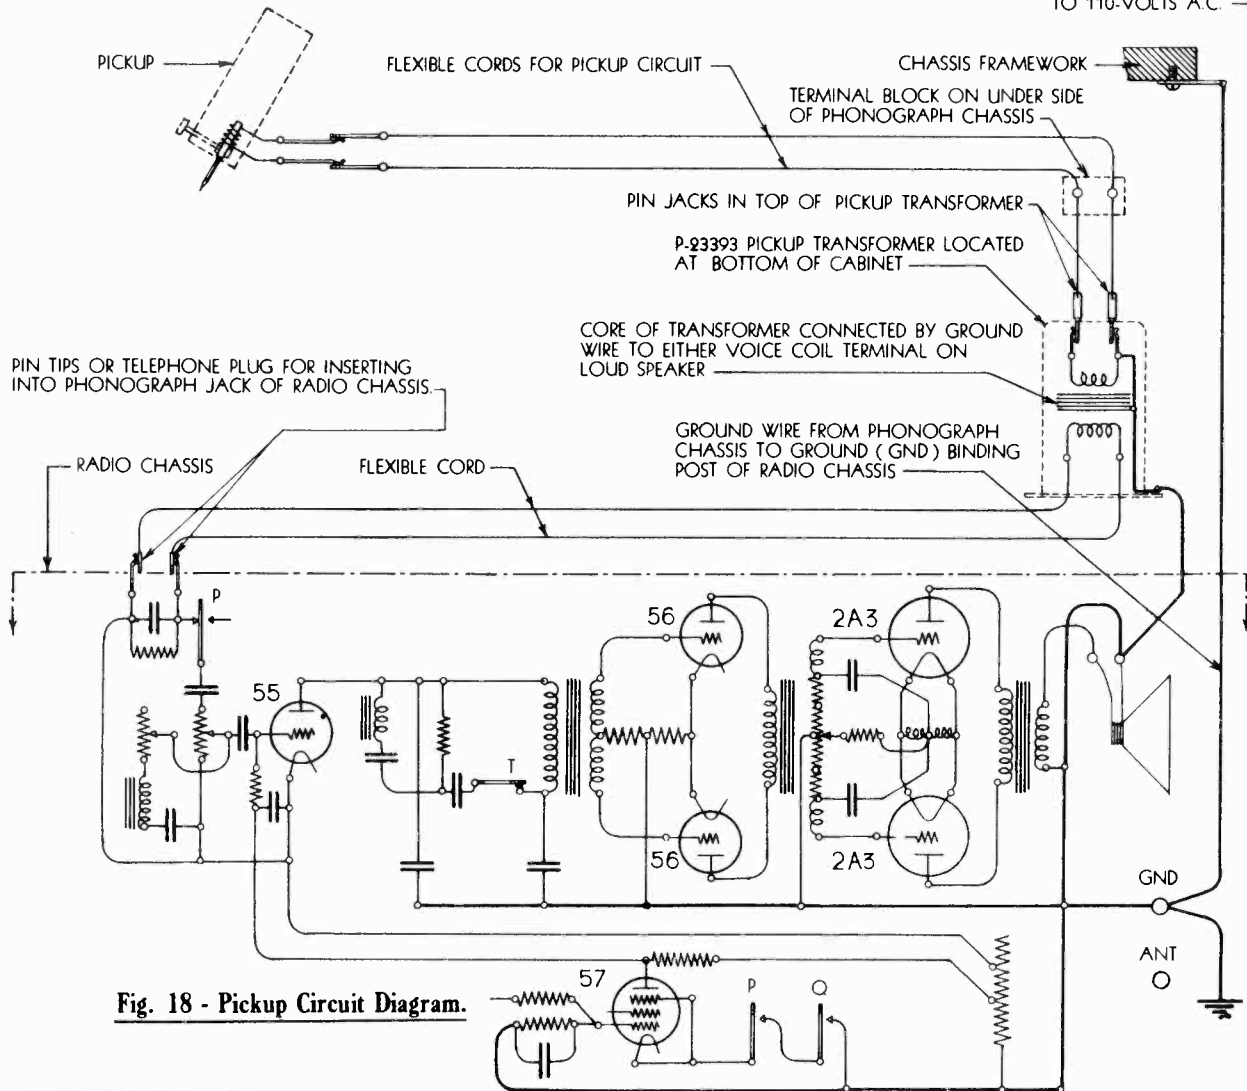

Fig. 18 - Pickup Circuit Diagram.
This circuit shown in Fig. 18 connects the pickup head winding to the P-23393 pickup transformer, which latter is located near the bottom of the cabinet to avoid electrical "noise" pickup. The core of this pickup transformer, and the frame of the phonograph chassis are both connected to "ground" through the radio chassis so as to avoid high pitched "hum" which otherwise would be present in the loud speaker when the phonograph is turned on.
The audio circuit of the radio chassis, included in Fig. 18, shows that the same volume control employed for regulating the volume of radio reproduction is used for regulating the volume of phonograph reproduction.
The No. 21778 Pickup Head has an impedance of 70 ohms at 1000 cycles and works directly through the P-23393 Pickup Transformer which has a turns ratio of 1 to 60, giving an impedance ratio of 1 to 3600. This high impedance ratio is provided so that the coupling to the audio amplifier system can be made directly to the grid of the first audio amplifier tube with a 1/4 megohm shunt resistance as shown in Fig. 18.
- (d) Disconnect the two cords which connect the No. 5 Phonograph Unit to the radio chassis circuits. One of these cords terminates in a plug which is inserted in a power receptacle on the back of the radio chassis, while the other cord terminates in pin tips which are inserted in pin jacks on the pick-up transformer located near the bottom of the cabinet. See Fig. 18.